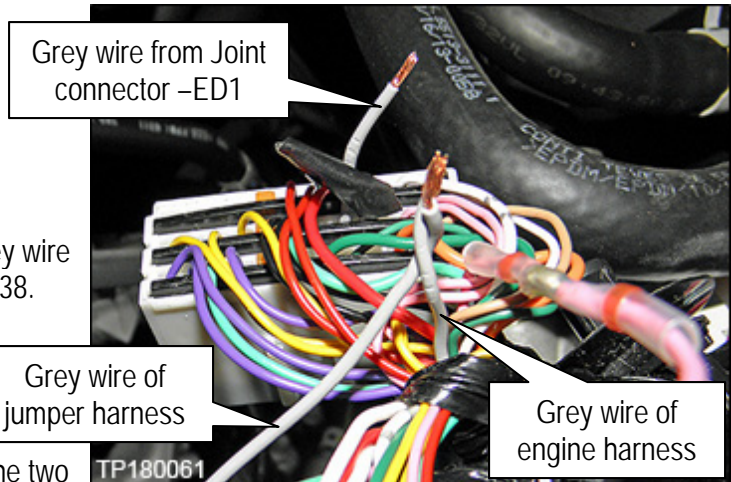

Figure 38
42. Twist together the grey wire of the engine harness that was cut in step 32 with the grey wire of the jumper harness as shown in Figures 38.